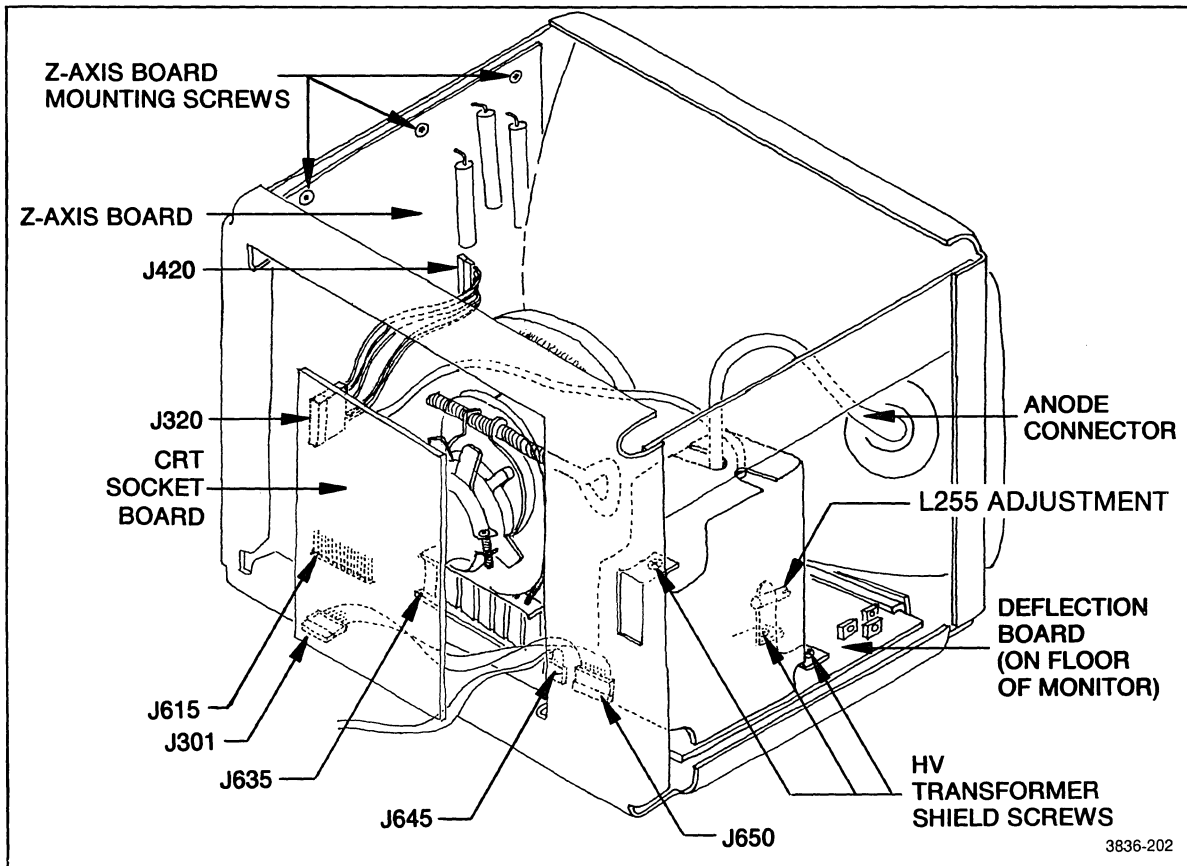

Figure 6-12. Item locations for monitor disassembly (COLOR ONLY).
Figure 6-12 shows the locations of the circuit boards in the monitor. It also calls out the parts that must be disconnected or removed in order to remove the circuit boards.
1. BEFORE REMOVING ANY BOARDS, BE SURE TO DISCHARGE THE CRT BY SHORTING THE ANODE CONNECTION TO CHASSIS GROUND. Attach a grounding strap to chassis ground, then attach the other end of the strap to a metal probe. Carefully insert the probe beneath the plastic anode connector insulator on the side of the CRT (refer to Figure 6-12).